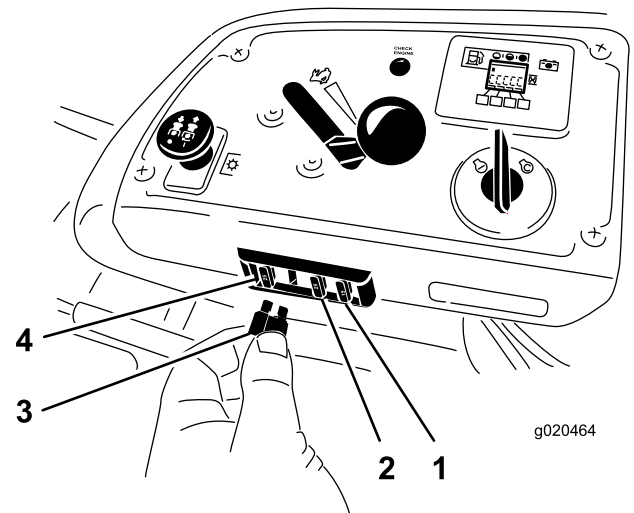

Figure 58
1. The fuses are located on the console to the right of the seat (Figure 58).
3. Install a new fuse (Figure 58).